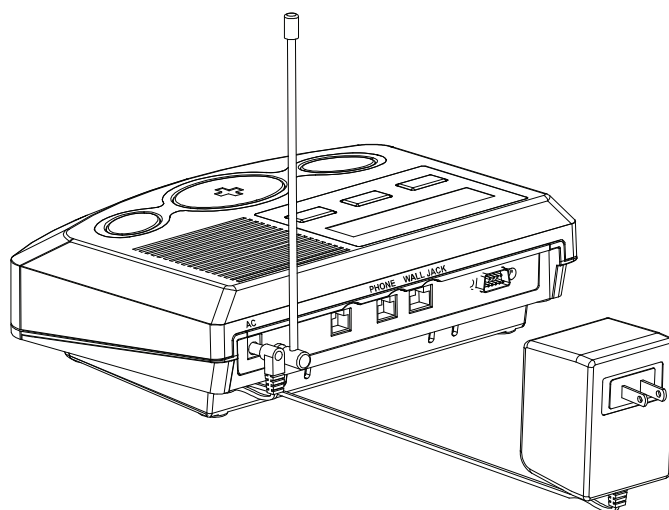

Figure 5b – Inserting Plug into Base Unit
2. Insert the small plug on the power cord into the "AC" connector on the Base Unit (see Figure 5b).